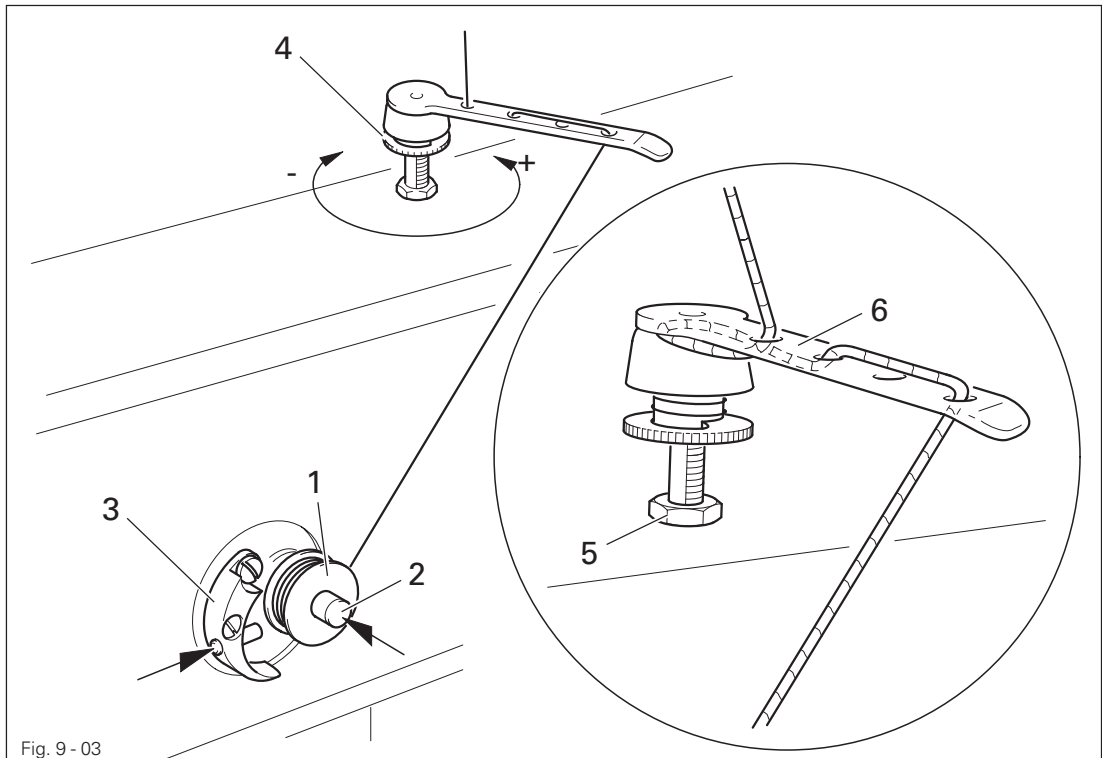

Fig. 9-03
- Thread up as shown in Fig. 9-03 and wind the thread a few times clockwise around bobbin 1.